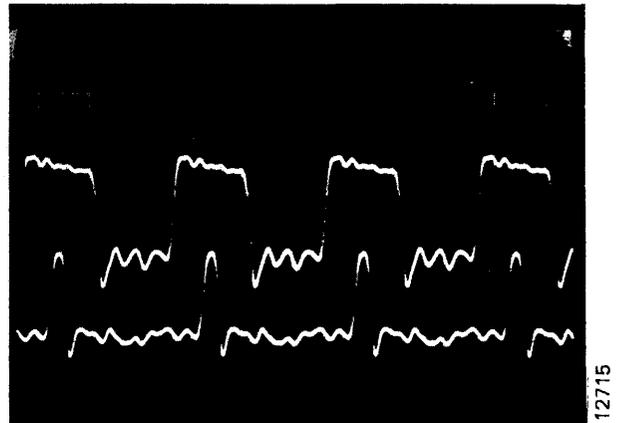

Figure 3-21. Skew One-Shot Display Waveform
13. Set the START/STOP switch to START. The heads should load normally, and a display such as Figure 3-21 should be seen on the scope.